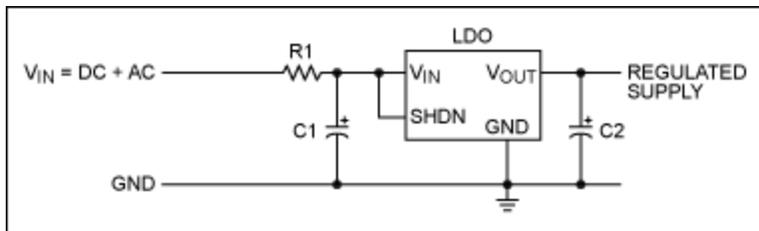
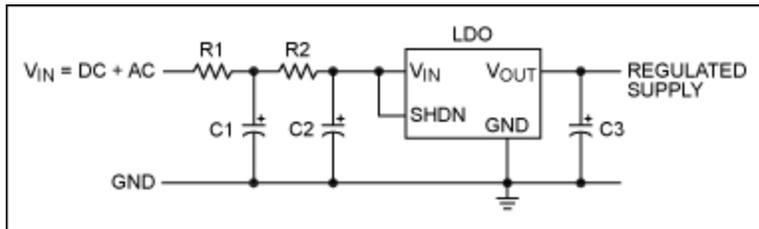

Figure 3a. Single RC ripple filter.
Figure 3b. Second-order cascade RC ripple filter.
**Figure 3a** shows the single-order RC network, and **Figure 3b** shows the cascade second-order RC network, both protecting a linear regulator.